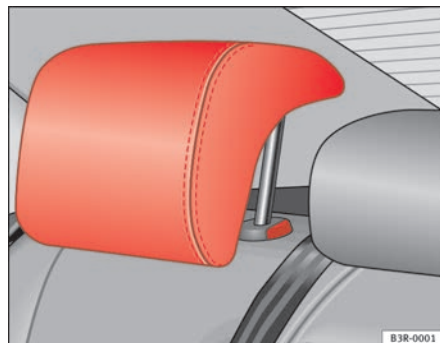

Fig. 5 Head restraints in correct position
- Two positions for **use** ⇒ fig. 5. In these positions, the head restraints are used normally, protecting passengers along with the rear seat belts.